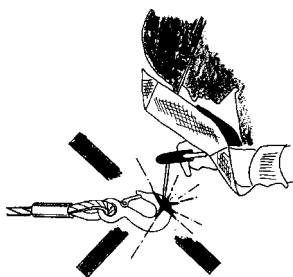

Fig. 4
- Welding on the hook and wire rope is strictly forbidden. The wire rope must never be used as a ground connection during welding (Fig. 4).